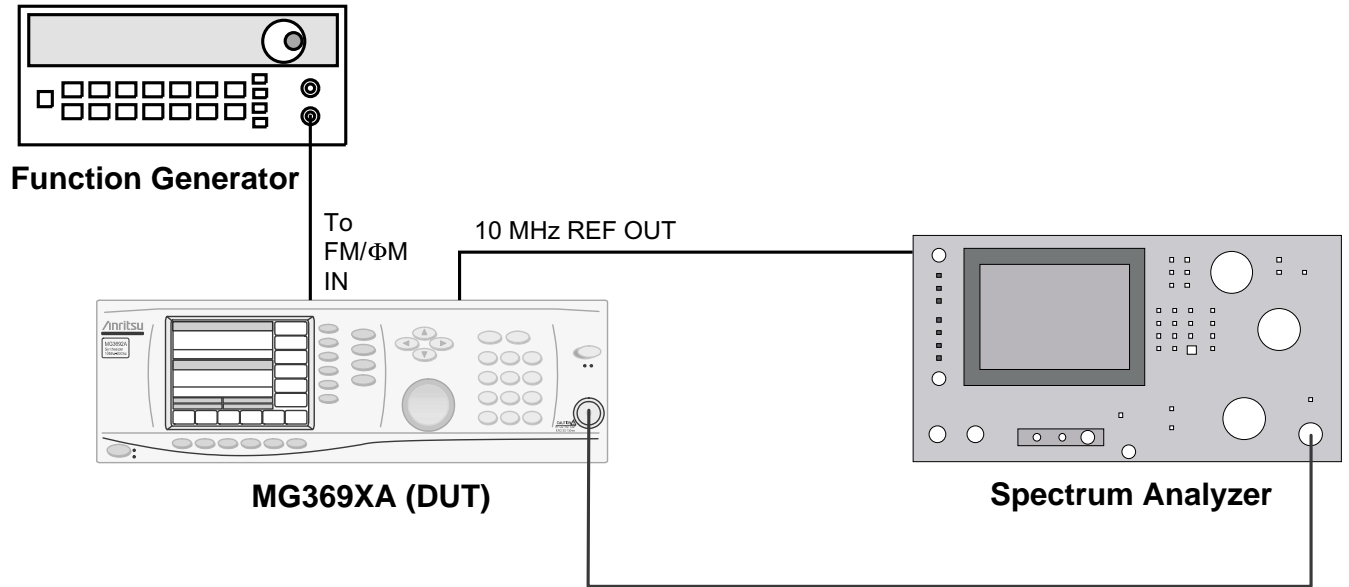

Figure 3-10. Equipment Setup for Frequency/Phase Modulation Flatness and Bandwidth Tests
Set up the equipment, shown in Figure 3-10, as follows:
Step 1. Connect the equipment as shown in Figure 3-10.